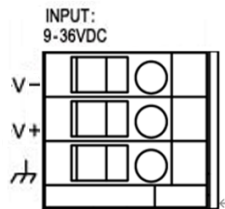

Figure 2.4 - Power Terminal Block
1. Insert the positive and negative wires into the V+ and V- contacts on the terminal block connector as shown below in *Figure 2.4*.